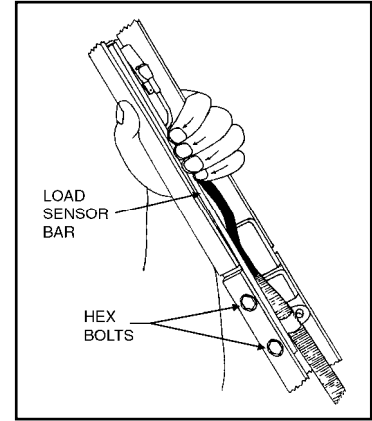

FIGURE 2-23: LOAD SENSOR ADJUSTMENT
- l. Refer to **Figure 2-23**. Place your left hand around knuckle vertical link assembly as shown; link is located on left side of lift.